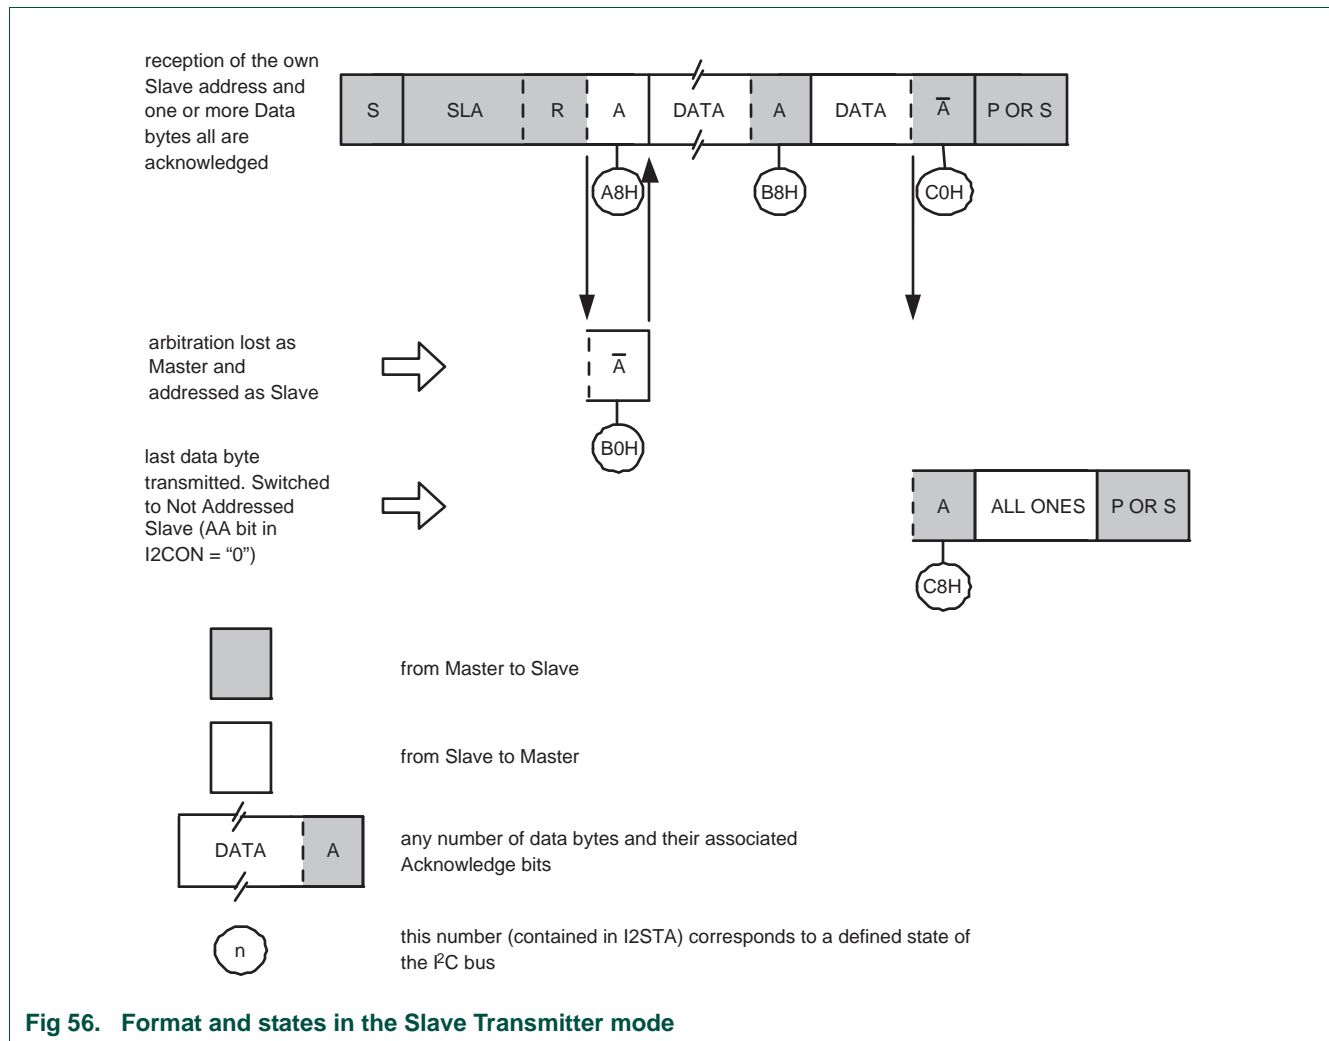

Fig 56. Format and states in the Slave Transmitter mode
In the slave transmitter mode, a number of data bytes are transmitted to a master receiver (see Figure 56). Data transfer is initialized as in the slave receiver mode. When ADR and CON have been initialized, the I²C block waits until it is addressed by its own slave address followed by the data direction bit which must be “1” (R) for the I²C block to operate in the slave transmitter mode. After its own slave address and the R bit have been received, the serial interrupt flag (SI) is set and a valid status code can be read from STAT. This status code is used to vector to a state service routine, and the appropriate action to be taken for each of these status codes is detailed in Table 240. The slave transmitter mode may also be entered if arbitration is lost while the I²C block is in the master mode (see state 0xB0).